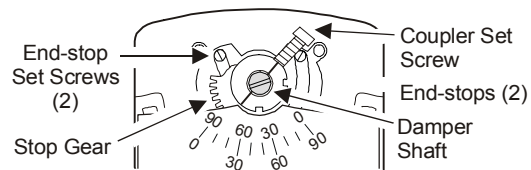

Figure 5: Setting the Rotation Range
If the damper shaft rotation is less than 90°, the stroke of the actuator has to be adjusted with the scale on the actuator cover. (See Figure 5.)
- For a rotation range of 90°, move both end-stop set screws fully up as shown in Figure 5.
3. Use a flat-blade screwdriver to loosen the end-stop set screw on the actuator that is closest to the stop gear, and move it in its slot so it is tight against the stop gear. (See Figure 5.)